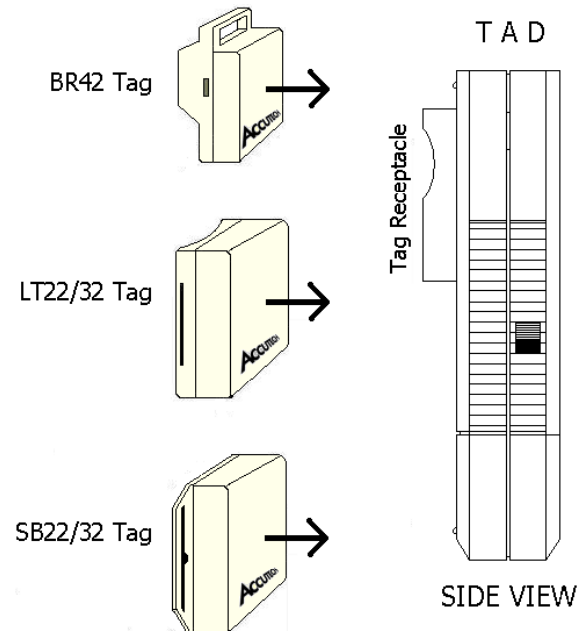

Figure A.11: Proper Tag Orientation
2. Place the Tag into the tag receptacle on the back of the TAD unit in proper orientation for the Tag type (see Figure A.11)